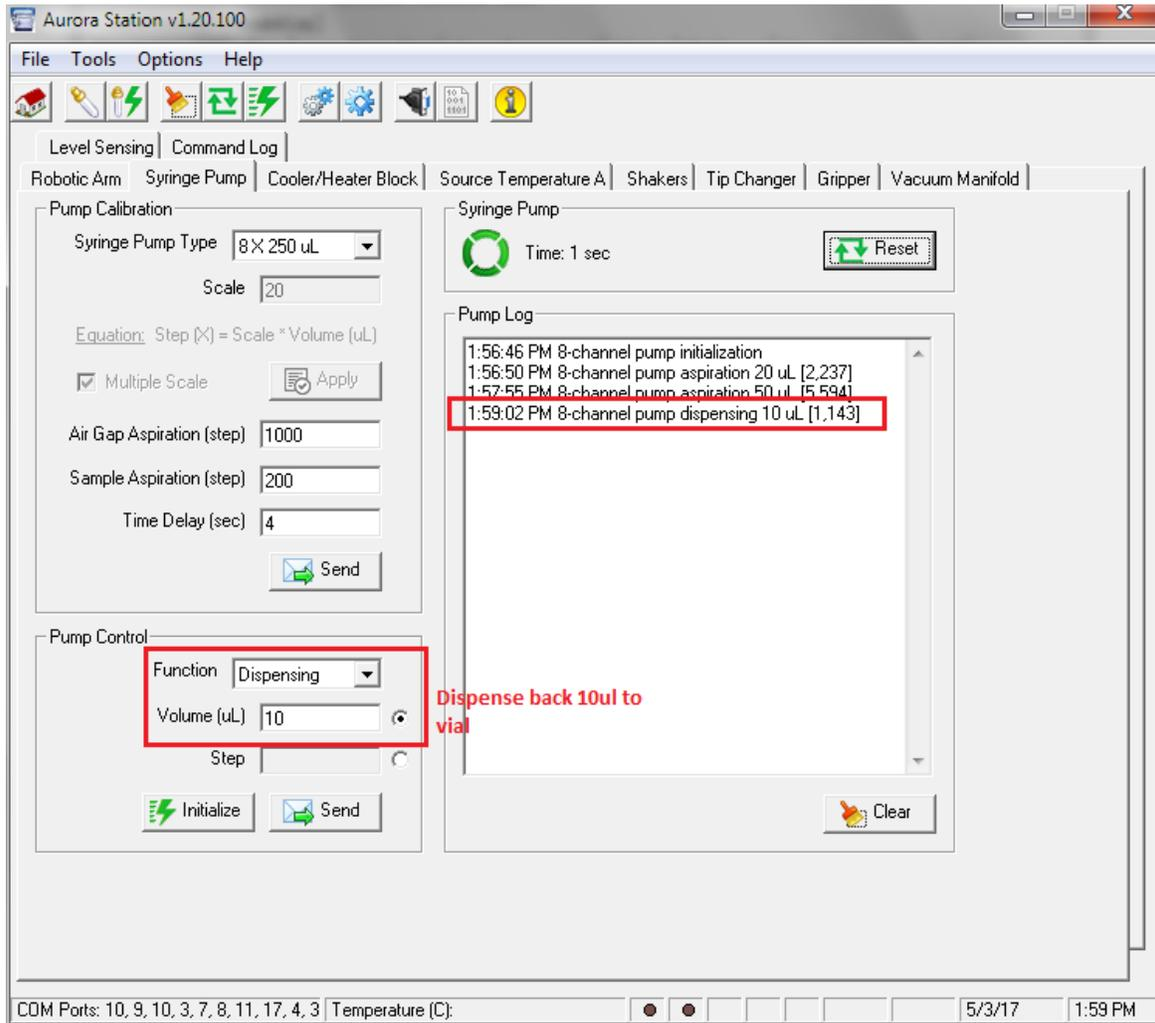

Figure 9-57 Syringe Pump –Dispense back to vial 10µL
9. Add 10µL & click send & dispense back to the same tube. This dispense back volume is to compensate any backlash of the system (Figure 9-57 Syringe Pump –Dispense back to vial 10µL)